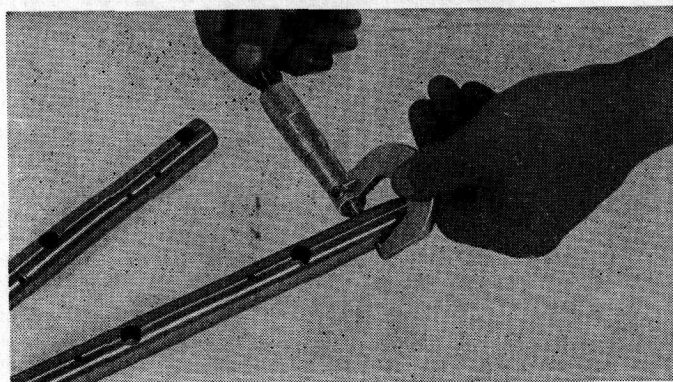

Fig. 58 Checking the Rocker Arm Shaft O.D.
(2) If the clearance between the rocker arm and the rocker arm shaft exceeds the service limit, replace the rocker arm or the shaft that is defective. (Fig. 58)
(3) Check the rocker arm shafts for damage and bend. Replace them if necessary.